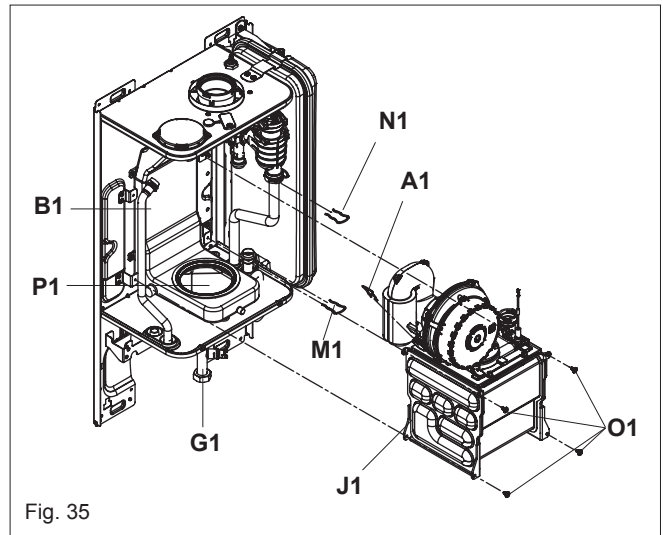

Fig. 35
6.16 MAIN HEAT EXCHANGER (fig. 35)